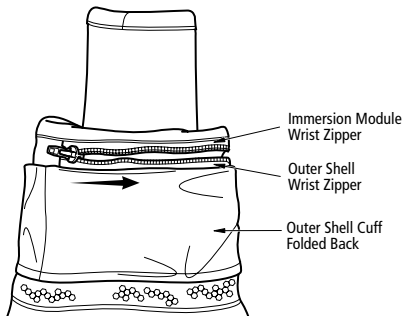

FIGURE 12
- Line up the zipper with the neoprene wrist zipper and connect the two securely (see fig. 12).